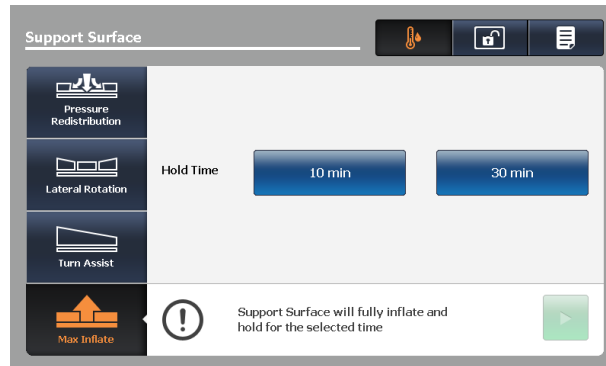

Figure 66: Max inflate screen
1. Tap **Max Inflate** (Figure 66 on page 74).